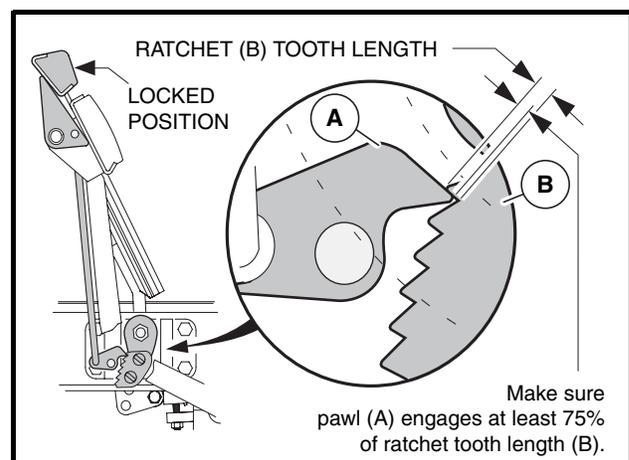

Figure 5-15 Ratchet/Pawl Tooth Engagement
- 3.4. With the park brake locked, make sure at least 75% of ratchet tooth length engages the pawl (Figure 5-15, Page 5-13). Tooth engagement should be between the two lines marked on the pawl.